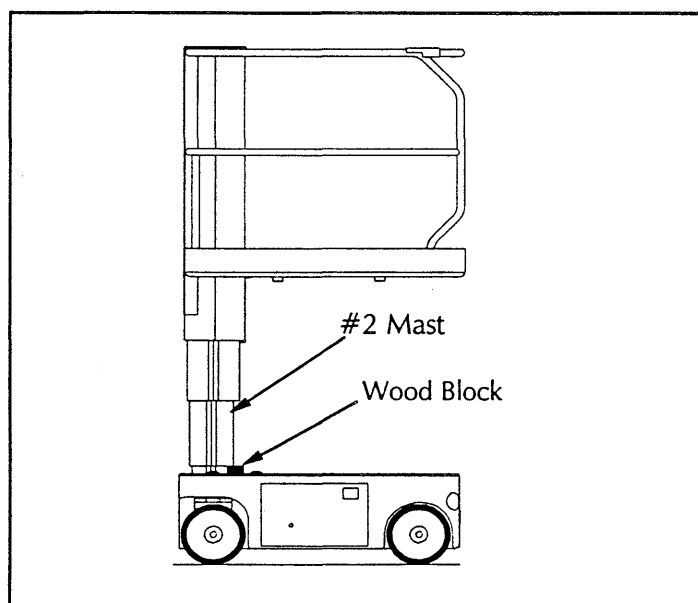

Figure 4-1: Blocking the Elevating Assembly
4.2 Blocking Elevating Assembly (Figure 4-1)
6. Push Chassis Lift Switch to **DOWN** position and gradually lower Platform until the #2 Mast is supported by the block, see Figure 4-1.